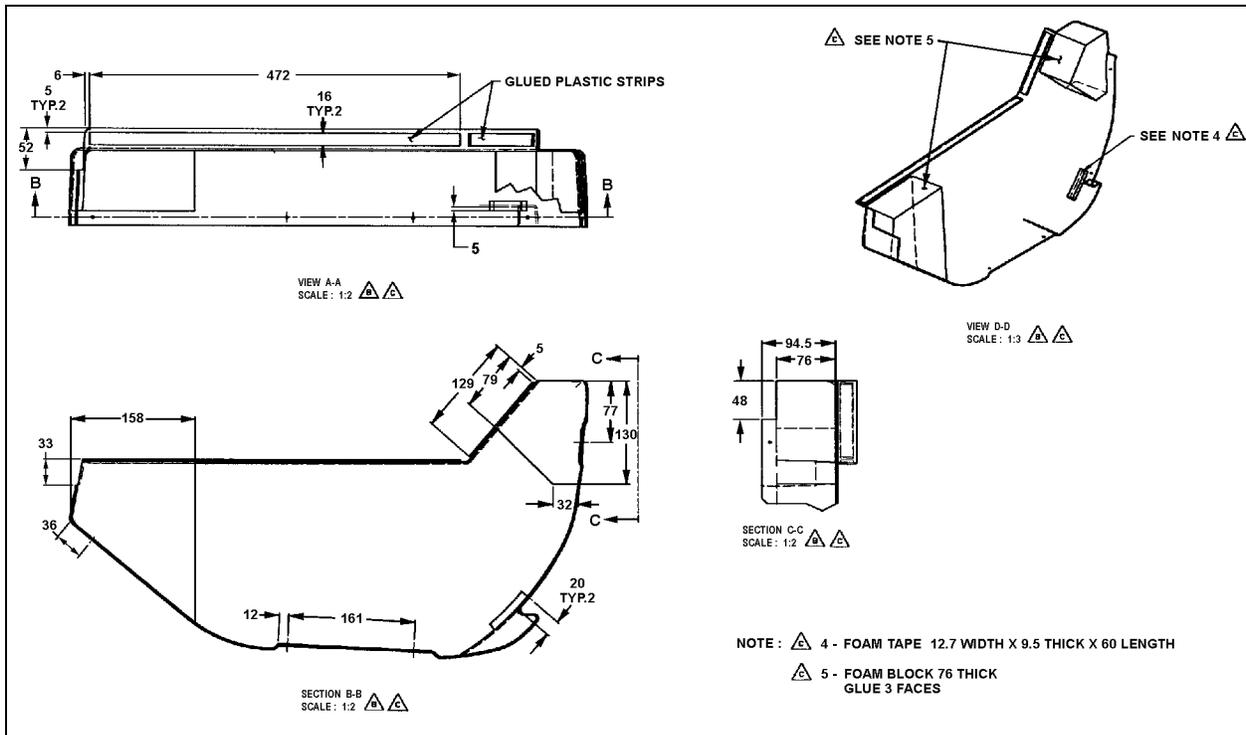

FIGURE 2 : OVERHEAD COMPARTMENT COVER
3. Install both foam blocks and foam tape (refer to figure 2).
11. Install both foam blocks and foam tape (refer to figure 2).
4. Install both foam blocks and foam tape (refer to figure 2).
12. Install both foam blocks and foam tape (refer to figure 2).